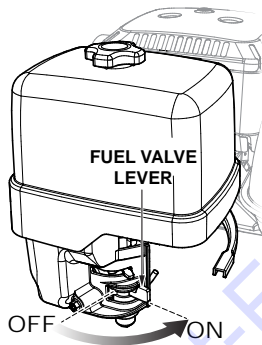

Figure 14. Fuel Shut-Off Lever
1. Move the fuel shut-off lever (Figure 14) to the ON position.